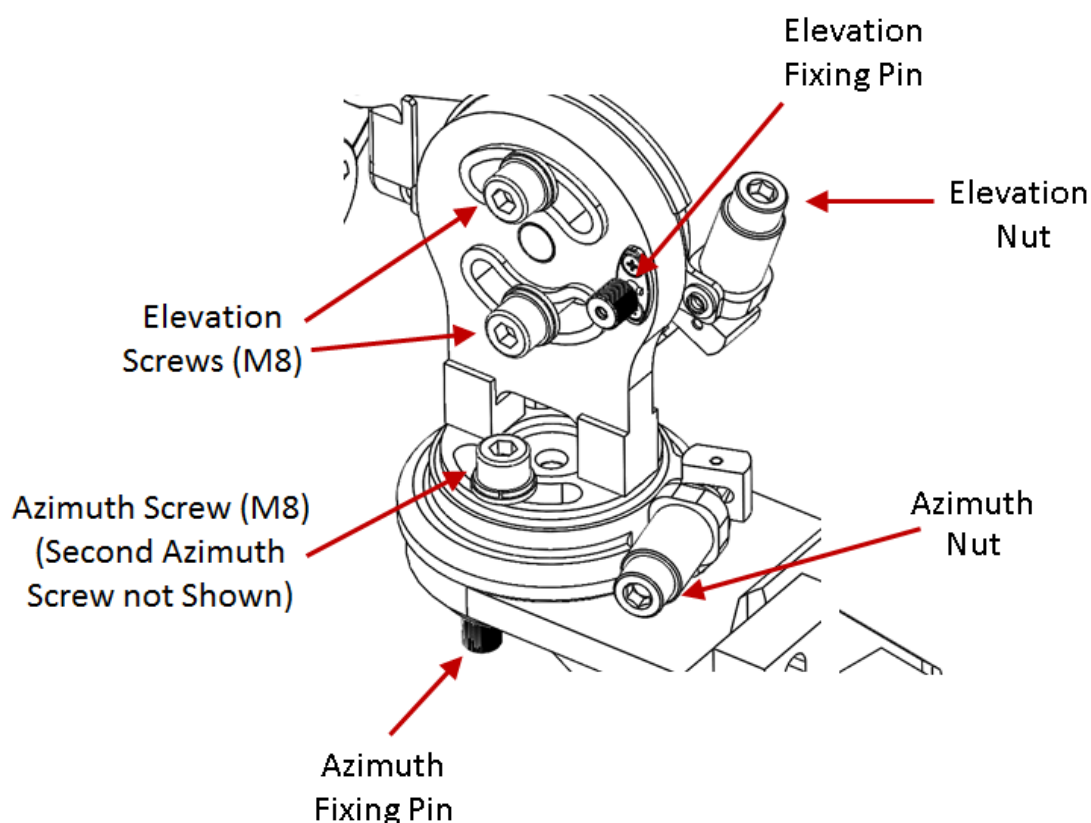

Figure 28: Installation and Alignment Device – Azimuth and Elevation Adjustment Tools
There are two M8 Elevation Screws and two M8 Azimuth screws, as shown in **Figure 28**. Before starting the alignment, make sure these screws are securely in place so they will not fall out during the procedure, but not too tight, so as to enable you to manually adjust the azimuth and elevation to the approximate position you want, before performing exact antenna alignment as described in the following sections.
You can easily adjust the azimuth and elevation of the antenna using a number of screws and nuts located on the installation and alignment device (Figure 28).
1. Loosen the Azimuth Fixing Pin (Figure 28) by pulling it gently out of its groove and rotating it counter-clockwise.
1. Turn the Azimuth Nut (Figure 28), either by hand or using a key wrench, for fine tuning of the azimuth. Each  $\frac{1}{4}$  turn is equal to an adjustment of  $0.25^\circ$ .